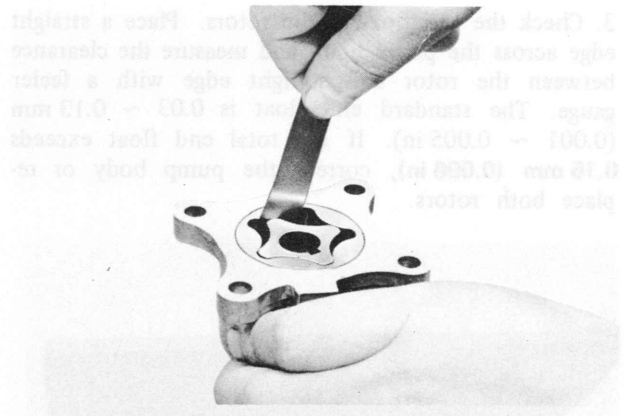

Fig. 2-3 Checking rotor clearance
1. Check the clearance between the lobes of the rotors with a feeler gauge, as shown in Fig. 2-3. The standard clearance is 0.01 ~ 0.09 mm (0.0004 ~ 0.0035 in). If the clearance exceeds **0.15 mm (0.006 in)**, replace both inner rotor and outer rotor.